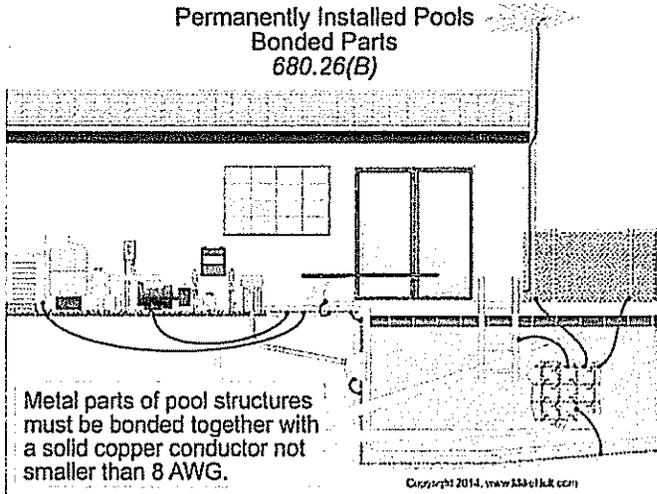

Figure 680-40
**(B) Bonded Parts.** The parts of a permanently installed pool listed in (B)(1) through (B)(7) must be bonded together with a solid copper conductor not smaller than 8 AWG with listed pressure connectors, terminal bars, exothermic welding, or other listed means in accordance with 250.8(A). Figure 680-40